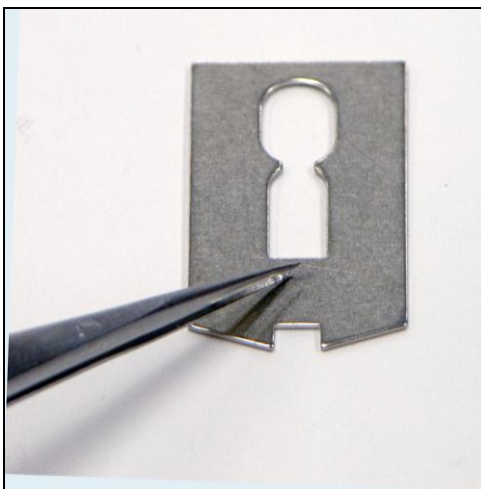

Figure 3-72. Up/Down Stop Plate which rests on Magnet Cover.
15. Install the Up/Down Stop Plate, as shown in Figure 3-72.
Do not rest the Load Cell on the Ratio Beam Rod. The Load Cell should be supported on the Threaded Rod to protect the Ratio Beam Rod. The Threaded Rod should support the weight of the Load Cell and not the Ratio Beam Rod Screw. See Figure 3-72.